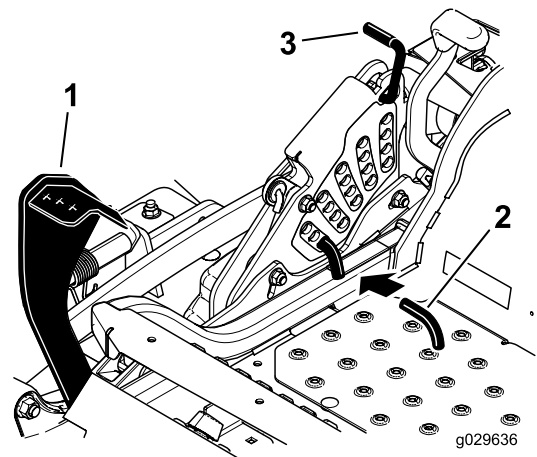

Figure 97
5. Push the deck-lift pedal all the way forward so that the deck latches at the 14 cm (5-1/2 inches) transport position (Figure 97).